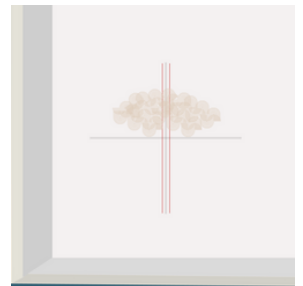

Fig. 3
- Apply adhesive in manageable sections, starting from the centre. **(Fig. 3)**